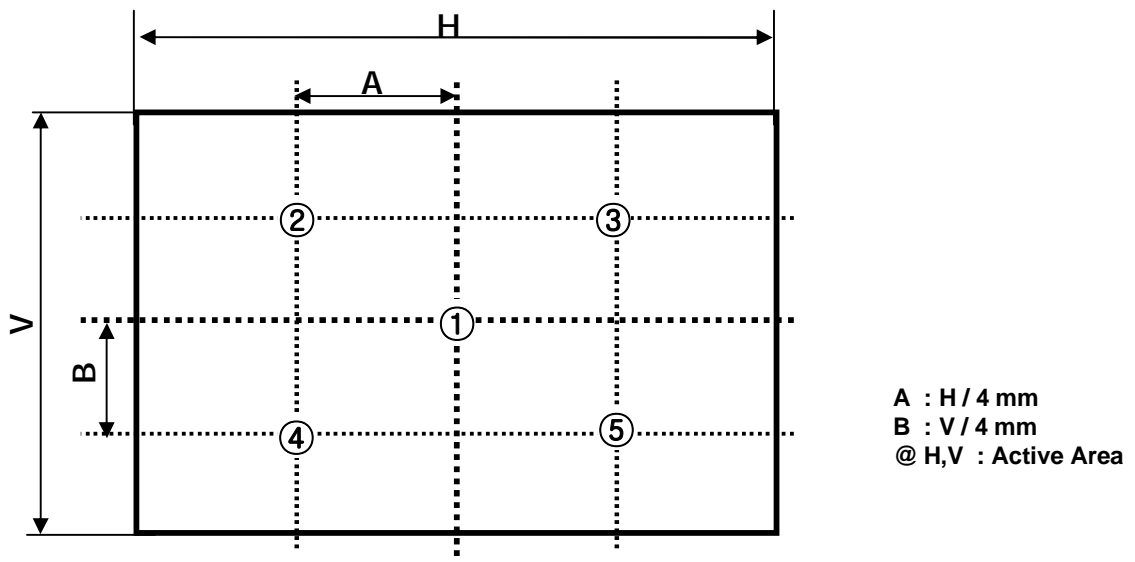

FIG. 2 5 Points for Luminance Measure
n = the Position number(1, 2, 3, 4, 5). For more information, see FIG 2.
2. Surface luminance are determined after the unit has been 'ON' and 30min after lighting the backlight in a dark environment at  $25 \pm 2^\circ\text{C}$ . Surface luminance is the luminance value at center 1-point across the LCD surface 50cm from the surface with all pixels displaying white. For more information see the FIG. 2.
Where  $L_{on1}$  to  $L_{on5}$  are the luminance with all pixels displaying white at 5 locations . For more information, see the FIG. 2.